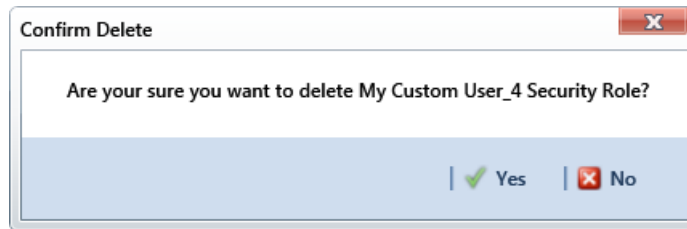

Figure 3-23. Confirm Delete
- 4 Click **Delete**. When the *Confirm Delete* message displays, click **Yes** to delete the custom security role and set users tied to this role to the PCS Axis installed role or **No** to cancel the operation (Figure 3-23).